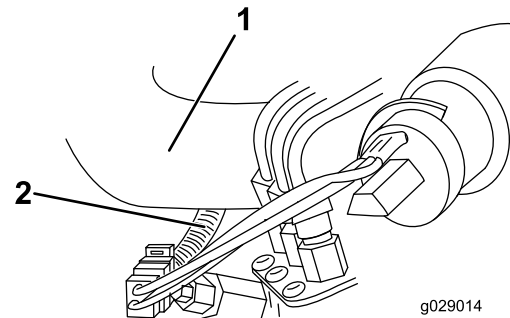

Figure 13
5. Route the other end of the jumper harness under the radiator hose and then plug it into the main wire harness (Figure 13).